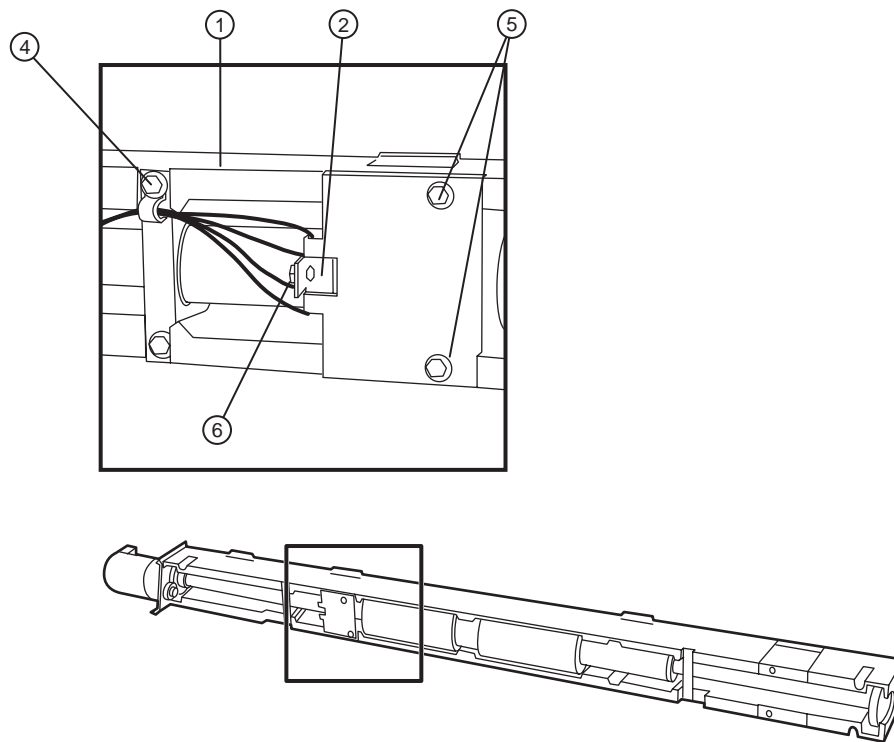

Figure 4-12 Inner take-up (nip) jam sensor.
- ①—Inner take-up drive (nip) assembly. ②—Take-up jam sensor.
③—1/4" hex head screw in tie clamp. ④—Two 1/4" hex head screws on bracket.
⑤—1/4" hex nut on sensor.
4. Using a 1/4" nut driver, remove the 1/4" hex head screw holding the tie clamp. Refer to Figure 4-12.
5. Using a 1/4" nut driver, remove the two (2) 1/4" hex head screws securing the sensor bracket to the take-up drive (nip) assembly. Carefully slide the bracket toward the motor to clear the jam sensor wheel. Refer to Figure 4-12.
6. Using a 1/4" nut driver, remove the nut securing the sensor to the bracket. Refer to Figure 4-12.
1. Install the new jam sensor to the Jam Sensor bracket. Do not tighten the screw. Refer to Figure 4-12.
2. Install the jam sensor bracket into the inner take-up drive assembly. Refer to Figure 4-12.
4. Tighten the jam sensor screw. Refer to Figure 4-12.